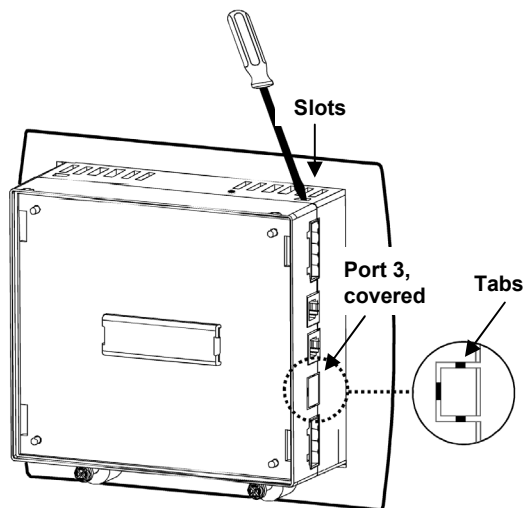

Figure 1. Opening the Controller
4. The RS232/485 port's location, COM 3, is covered by plastic. Remove the plastic covering using a razor cutter to cut through the tabs shown in Figure 1.